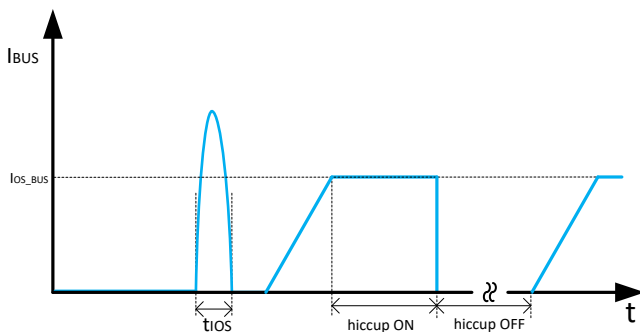

图 10-11. Response Time to BUS Short-Circuit
- The first condition is when a short circuit or overload is applied to the USB output when the device is powered up or enabled. There can be inrush current and once it triggers the approximate 8-A threshold, a fast turnoff circuit is activated to turn off the USB power switch within t_{IOS_USB} before the current limit control loop is able to respond (shown in 图 10-11). After the fast turnoff is triggered, the USB power switch current-sense amplifier is over-driven during this time and momentarily disables the internal N-channel MOSFET to turn off USB port. The current-sense amplifier then recovers and ramps the output current with a soft start. If the USB port is still in overcurrent condition, the short circuit and overload hold the output near zero potential with respect to ground and the power switch ramps the output current to I_{OS_BUS} . If the overcurrent limit condition lasts longer than 4.1 ms, the corresponding USB channel enters hiccup mode with 524 ms of off-time and 4.1 ms of on-time.